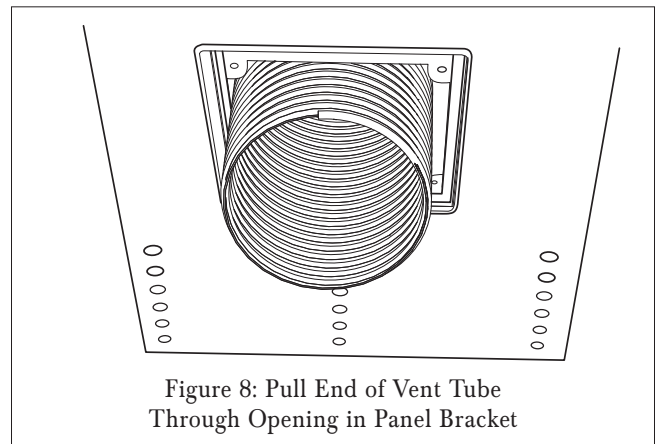

Figure 8: Pull End of Vent Tube Through Opening in Panel Bracket
2. Feed several inches of the Vent Tube through the Panel Bracket's speaker opening (see *Figure 8*).